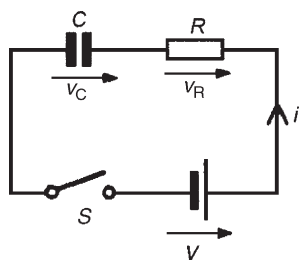

Figure 18.1
- (a) The circuit diagram for a series connected C – R circuit is shown in Fig. 18.1. When switch S is closed then by Kirchhoff's voltage law: